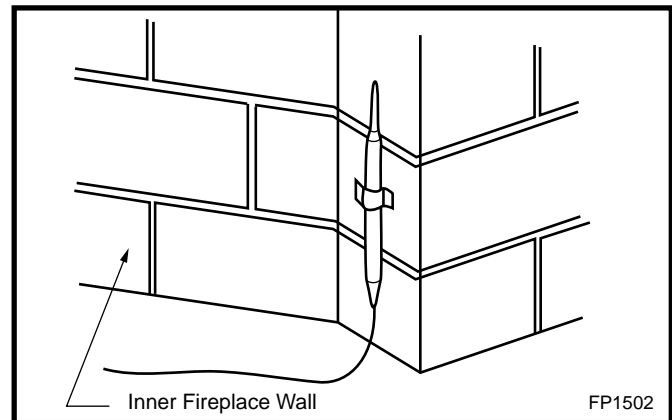

Fig. 9 Sensing bulb in masonry fireplace.
3. If you have a masonry fireplace, refer to Figure 9.